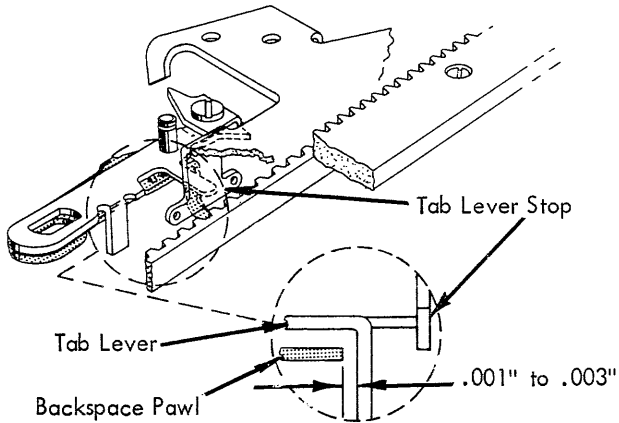

FIGURE 161. Tab Lever Stop
1. Tab Lever Stop - Form the stop on the escapement bracket (Fig. 161) to obtain .001" to .003" clearance between the vertical lug on the tab lever and the backspace pawl when the tab lever is at rest and the backspace pawl is fully seated in its rack.